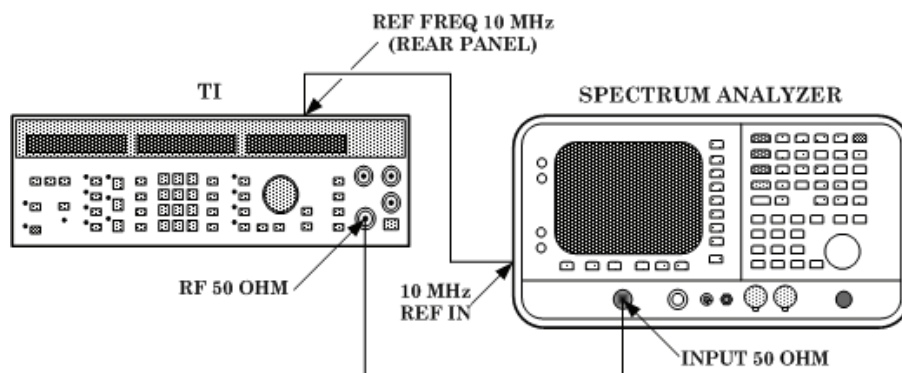

Figure 5. Spectral purity.
(1) Connect equipment as shown in figure 5.